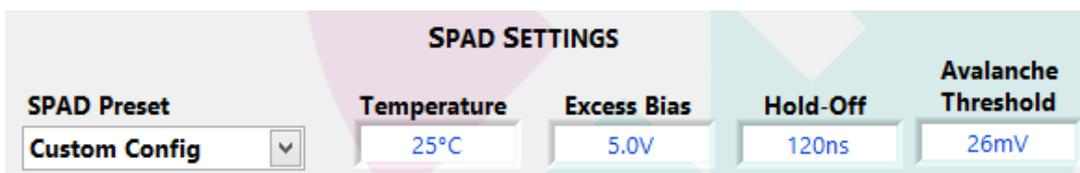

Figure 16. Advanced SPAD configuration, with fancy values.
With the panel shown in Figure 16, you can select detector Temperature, Excess Bias, Hold-off and Avalanche Threshold. All parameters are self-explaining with the exclusion of Avalanche Threshold. This controls the threshold of the fast comparator used to sense the onset of the SPAD avalanche current: a low value allows for best timing performance but might cause the comparator to be triggered even by noise; a high value allows for noise immunity with a larger jitter and decreased sensitivity as the avalanches can be triggered close to the gate edges.
2. Select a *SPAD Preset*, using the list-box shown in Figure 16. If *Custom Settings* has been chosen, enter the desired values: